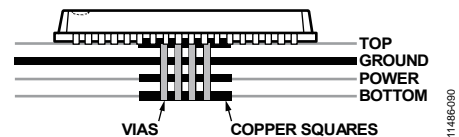

Figure 84. Exposed Pad Layout Example—Side View
- Place a copper layer, equal in size to the exposed pad, on all layers of the board, from top to bottom. Connect the copper layers to a dedicated copper board layer (see Figure 84).